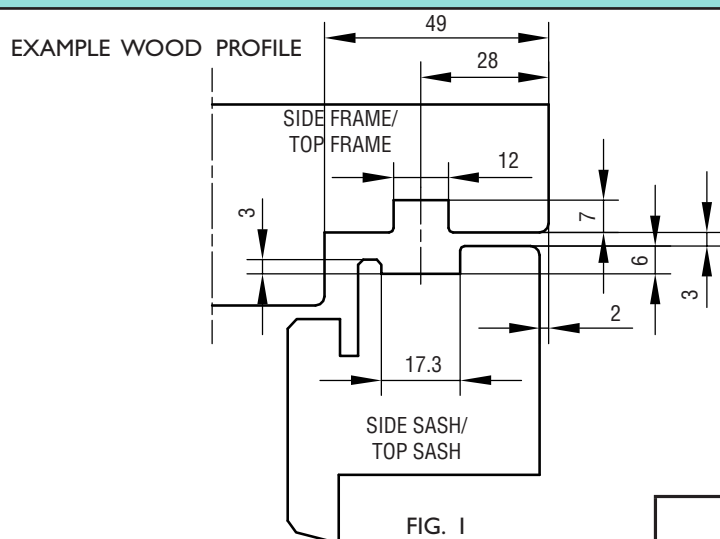

FIG. 1
1. 21167: SIDE FRAME AND SIDE SASH HAS TO BE FITTED WITH FULL LENGTH GROOVES. SEE FIG. 1 + 2.
& 90: SIDE/TOP FRAME AND SIDE/TOP SASH HAS TO BE WITH FULL LENGTH GROOVES, SEE FIG. 1 + 2.